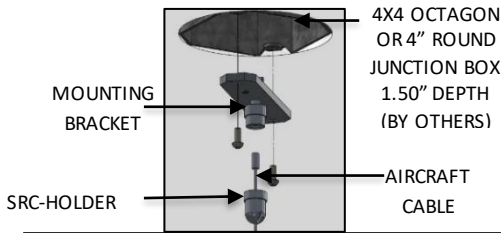

FIG. 13 – MOUNTING BRACKET ASSEMBLY
- Feed the remaining AIRCRAFT CABLE through the SRC-HOLDER. Then assemble the SRC-HOLDER with AIRCRAFT CABLE to the SRC-BASE on the MOUNTING BRACKET ASSEMBLY. Secure the MOUNTING BRACKET ASSEMBLY to the JUNCTION BOX (by others) as shown below in FIG. 13.